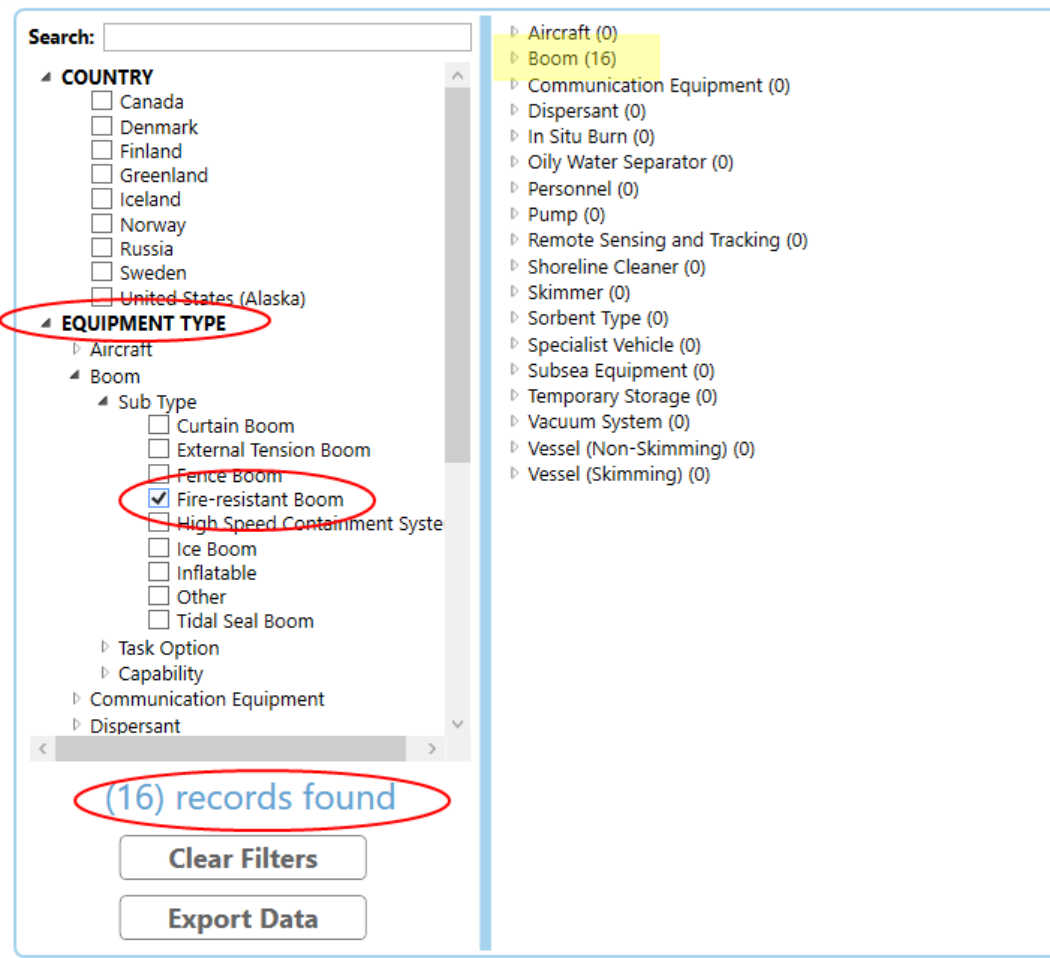

Figure 19- Searching for Fire-Resistant Booms
1. Conduct a search for the desired records using one of the Search options described in this document (Figure 19).